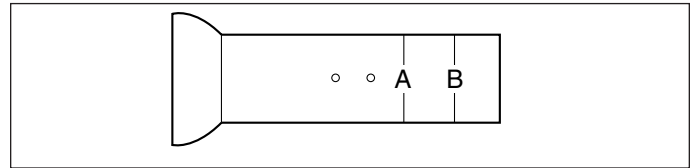
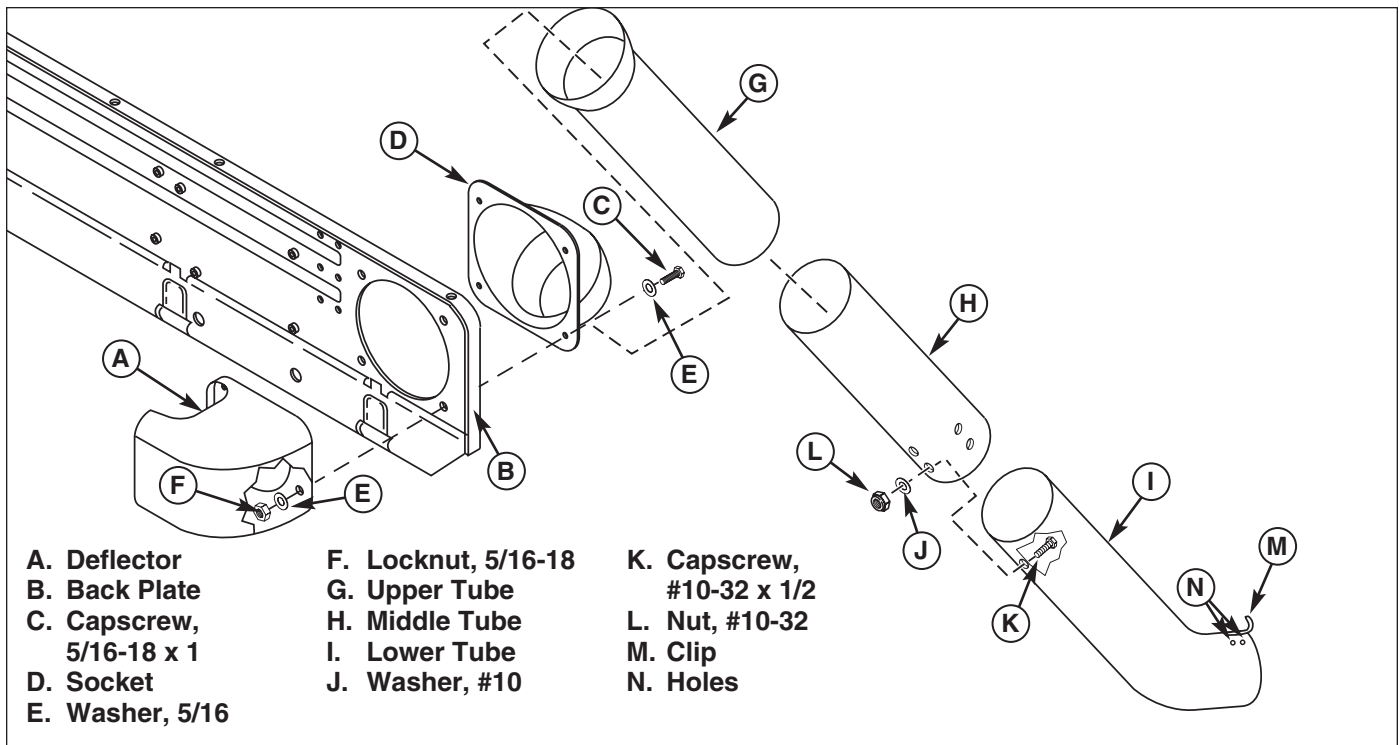

Figure 6. Upper Tube Length
Figure 5. Assemble Tubes & Deflector
1. Some 50" models covered by this manual require upper tube (G, Figure 6) to be shortened. Shorten tube by cutting through along line "B" line. See Figure 5.
2. If not already done, insert the upper tube (G, Figure 5) into the socket (D). Insert the tube from the front. This will require some effort.
3. Mount the socket (D) and deflector (A) to the back plate (B) using the four 5/16-18 x 1 cap screws (C),
eight flat washers (E), and four nylock nuts (F) as shown in Figures 5 & 7.
4. Insert the lower tube (I, Figure 5) into the middle tube (H). Secure the tubes as shown in Figure 5 using #10-32 x 1/2 cap screws (K), washer (J) and #10-32 nut. Insert middle tube (H) (Secure the elbow to the turbo using clip (M). Clip (M) may need to be relocated to a different set of holes (N) to ensure secure fit.